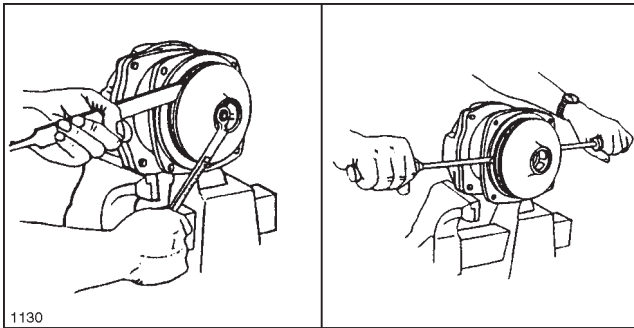

FIG. 12
2. To remove the impeller nut, clamp the flange in a vise and insert a large screwdriver or file (at least 10" long) into impeller vanes to prevent impeller from turning when loosening nut. Use a 5/8" box end or socket wrench to remove the impeller nut by turning it counter-clockwise. See FIG. 12.
3. Once nut is removed, place a screwdriver on each side (FIG. 12) behind the impeller and pry away from the mounting flange. Remove woodruff key from the shaft. Remove O-ring from the mounting flange.